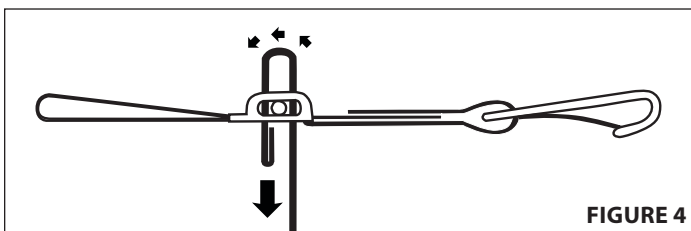

FIGURE 4
3. Feed end tail over roller bar and down through float buckle. **SEE FIGURE 4**
4. Pull end tail away from float buckle. **SEE FIGURE 4**